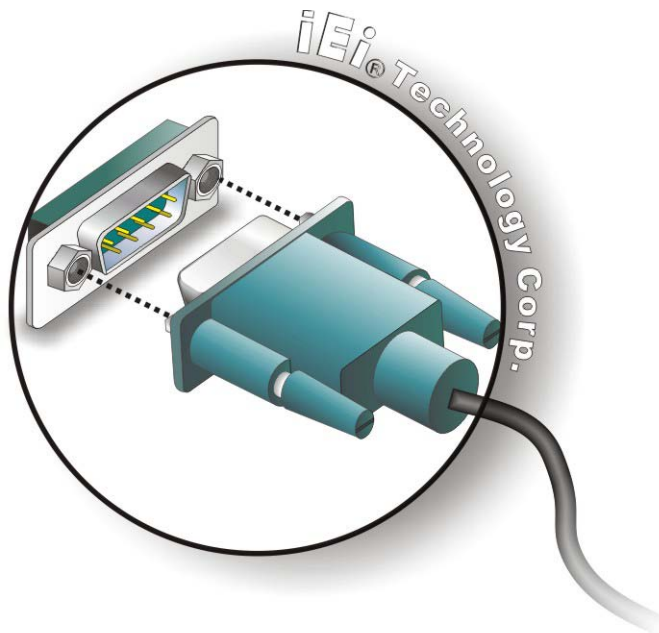

Figure 3-12: DB-9 Serial Port Connector
- Step 2: Insert the serial connector.** Insert the DB-9 connector of a serial device into the DB-9 connector on the rear panel. See Figure 3-12.